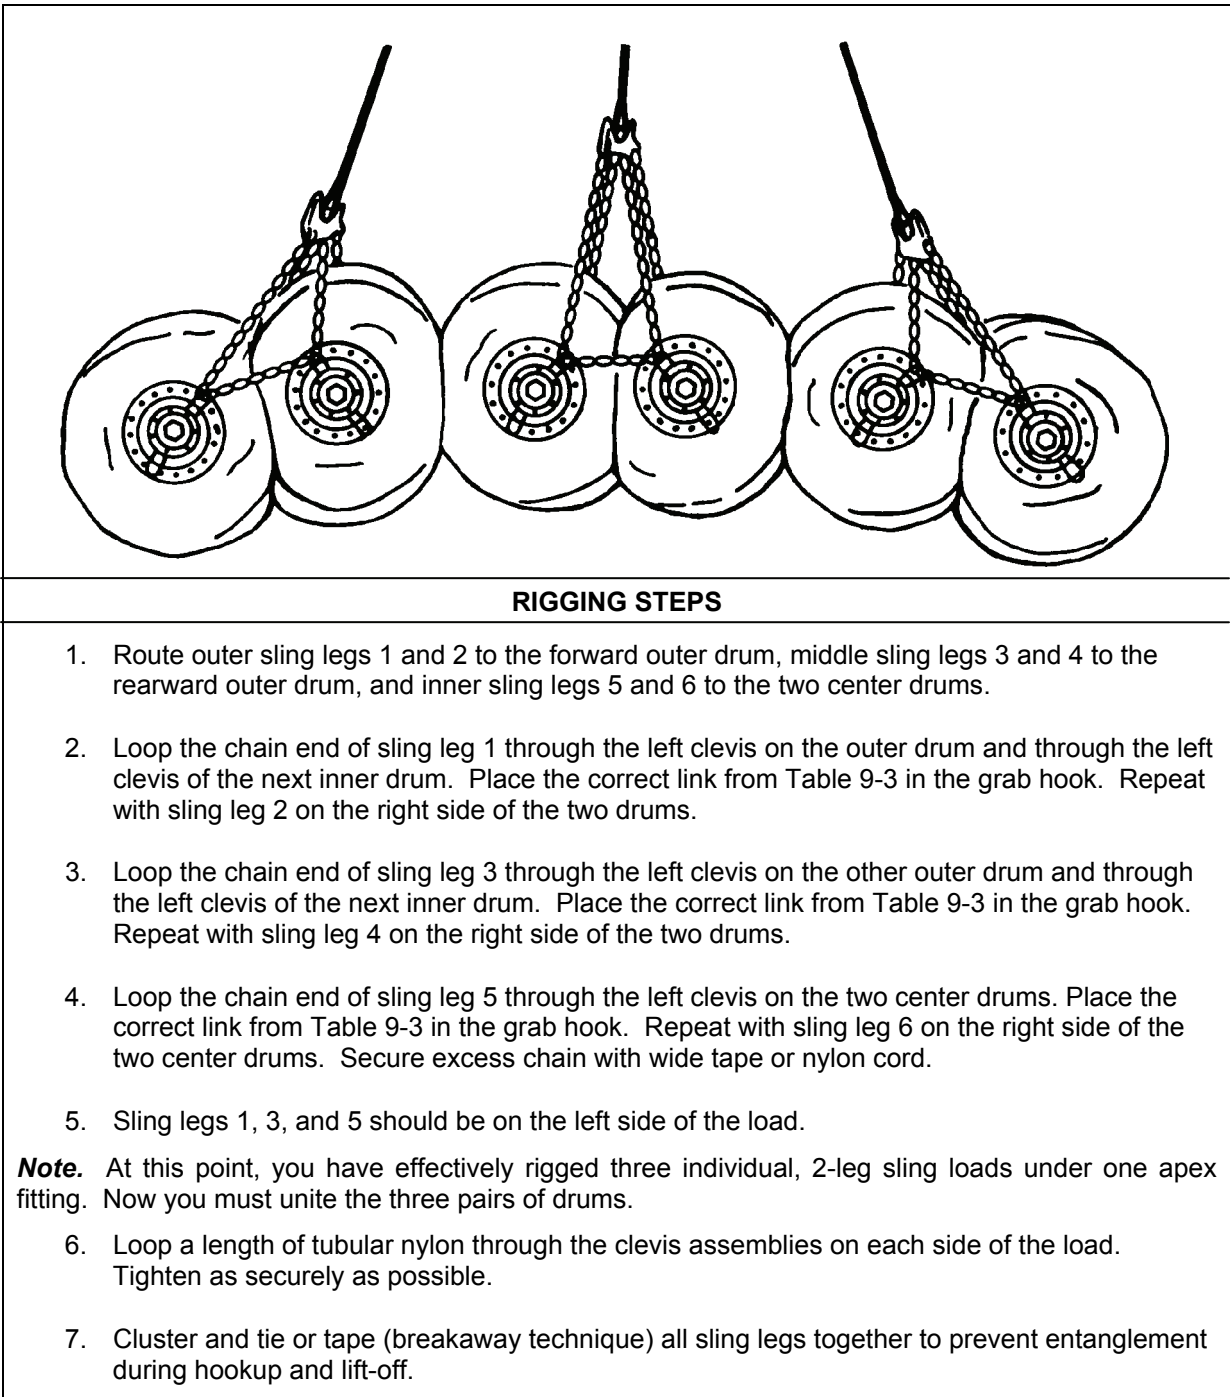

Figure 9-3. Six 500-Gallon Fuel Drums, Empty
- **Rigging.** Rig the load according to the steps in Figure 9-3.